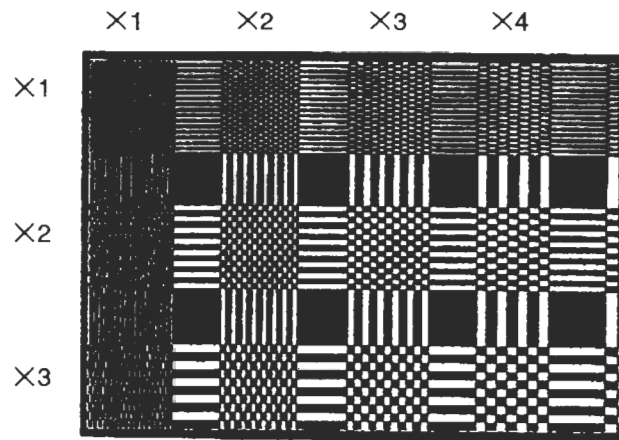

Figure 7-33 Resolution
- (2) Resolution Format
Four resolution pattern formats are available. If you select the leftmost one from the graphical listing of all formats, the pattern in Figure 7-33 will be output. You can set the conditions listed in Items (3) to (6) below. For the other formats, stock patterns will be used.
- (3) Unit